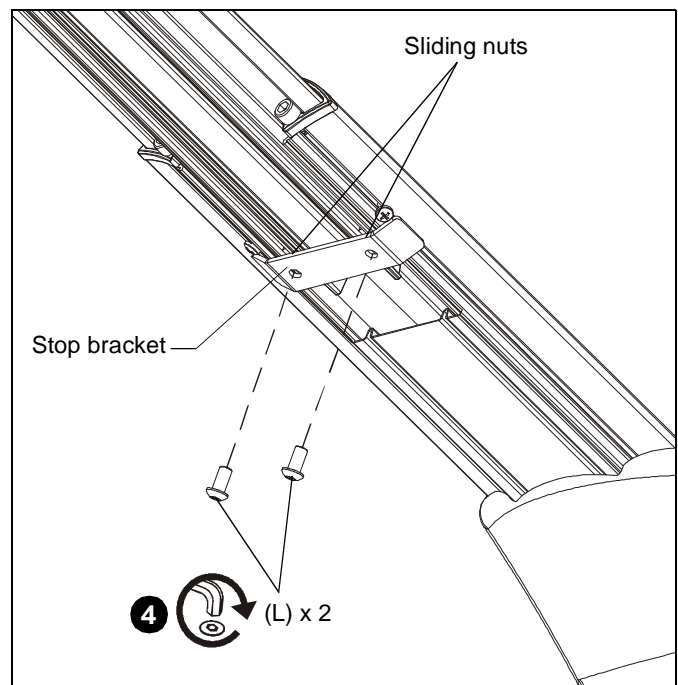

Figure 28
- Install two 1/4-20 x 1/2" button head security screws (L) through holes in stop bracket and into holes in sliding nuts. (See Figure 28)